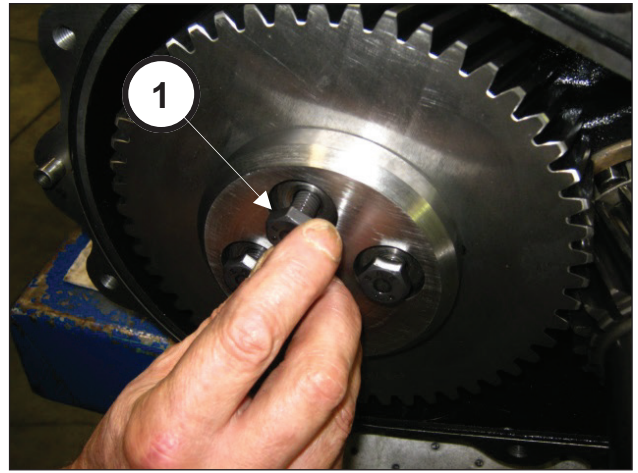
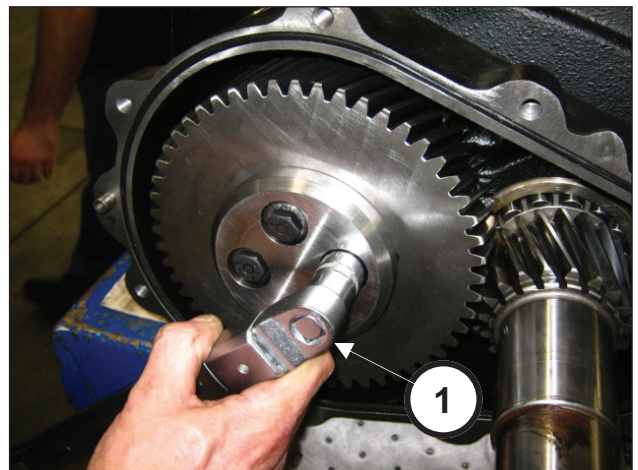

Fig. 68
Fig. 69
Fasten the ring gear stop (pos. ①, Fig. 68) using the 4 M10x30 screws. Calibrate the screws with a torque wrench as indicated in chapter 3 (pos. ①, Fig. 69).